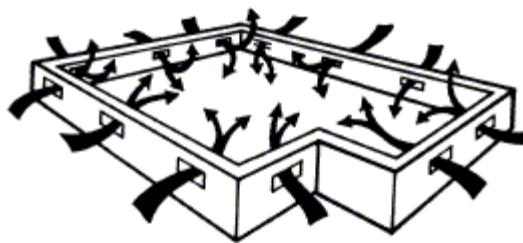

Figure 1
- Crawl spaces must be a minimum of 18" (46 cm) from the ground to the underside of the joists. A ground cover of 6-20 mil black polyethylene film is essential as a vapor barrier with joints lapped 6" (15 cm) and sealed with moisture resistant tape. The crawl space should have perimeter venting equal to minimum of 1.5% of the crawl space square footage. These vents should be properly located to foster cross ventilation (figure 1). Where necessary, local regulations prevail.